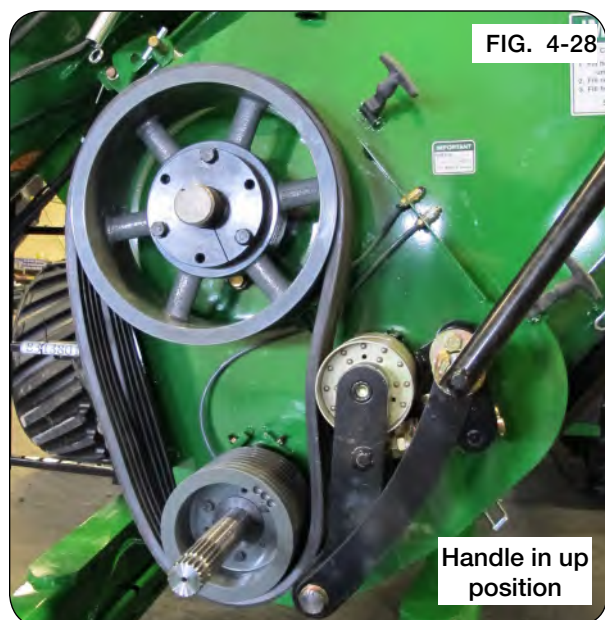

FIG. 4-28
6. Check the lower belt pulley to ensure belt is aligned in their grooves. Using the belt tensioner handle, engage the roller/idler linkage against the belt and over-center stop. The compressed spring should now be approximately $1 \frac{3}{4}$ " between the washers and generating a force of approximately 480 lbs. against the belt. (FIG. 4-28)
7. Release and tighten belt multiple times to confirm positions and final adjustments. See FIG. 4-28 and FIG. 4-29.